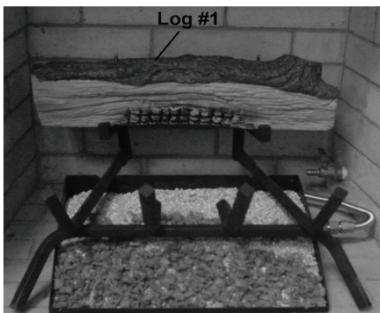

Figure 11 - Installing Back Log #1
2. Place back log #1 onto the grate steps as shown in Figure 11).